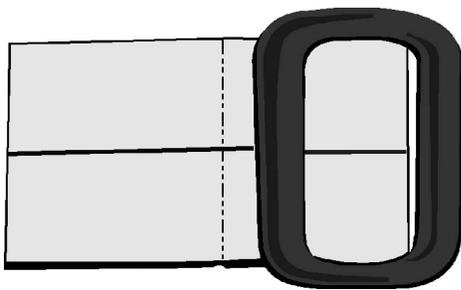

Figure 9. Single Bar Slide
(16) Measure and sear cut 4 pieces of 1-in. wide nylon webbing (PIA-T-5038, Type IV, Class 1A) 4-in. long.
(17) Route a piece of nylon webbing around the center bar of a single bar slide, aligning the seared ends of the webbing.
(18) Sew a tack stitch 1/8-in. from the aligned ends on each bar slide sub-assembly.
(19) Using a white pencil or equivalent, mark a centerline (1/2-in. on center) through the length of each piece of nylon webbing (Figure 9).